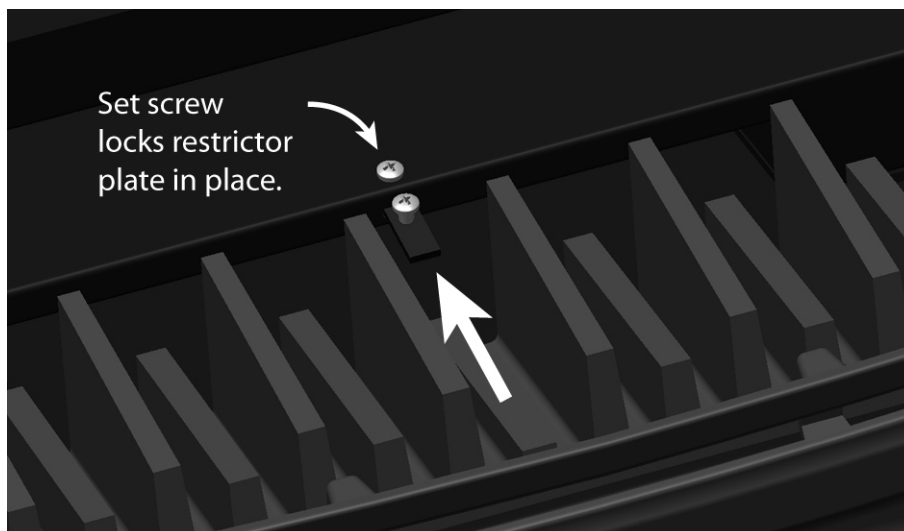

Figure 22 - Restrictor Fully Closed
-  Vertical terminations may require additional restriction in order to perform as intended. Please refer to *Figures 22 - 24* to adjust your vent restrictor accordingly
The restrictor plate is used to control excess draft if necessary. Controlling the draft also changes the aesthetics of the flame. The restrictor plate has an unlimited range of settings (see *Figures 22 & 23*). The adjustment point is on the top, center of the firebox, accessible with the top casting removed.